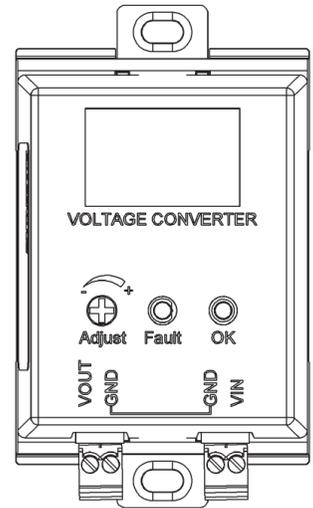

Figure 8: EZ-Mount with mounting tabs extended
- If not showing, pull the blue mounting tabs out as shown in Figure 8.
- If not showing, pull the blue mounting tabs out as shown in Figure 8. Place the EZ Pressure unit against the surface and mark the screw holes.